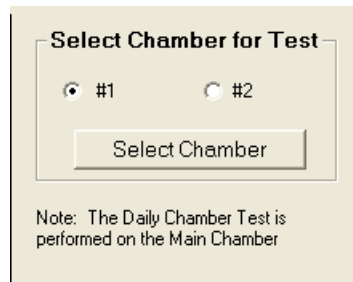

Figure 14 Selection of Chamber for Daily Test
- Click on the correct Chamber radio button in Figure 14 Selection of Chamber for Daily Test.